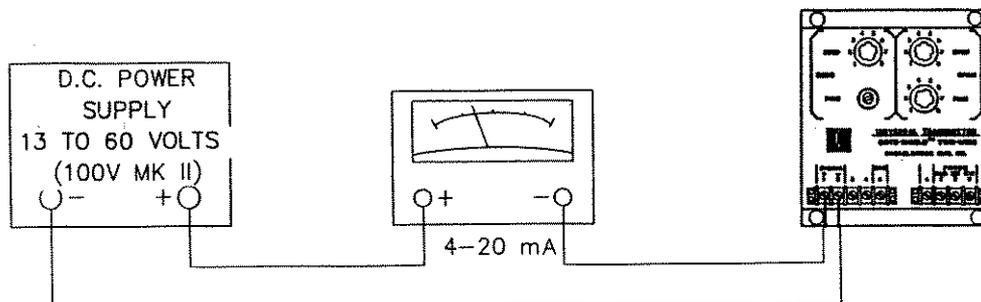

Figure 6-3
- Observing polarities, connect a DC milliammeter and DC power supply (24 to 100 volts) in series, and complete the loop by connecting to Terminals 1 and 2. See Figure 6-3.